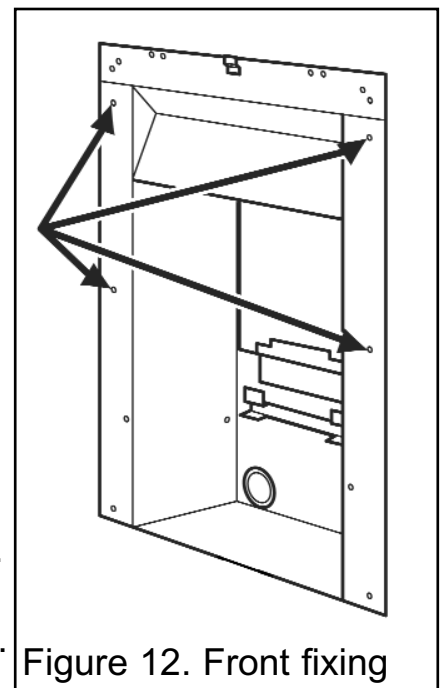

Figure 12. Front fixing
3. Mark the fireplace front surround through the four fixing holes in the side flanges of the convector box (See figure 12).